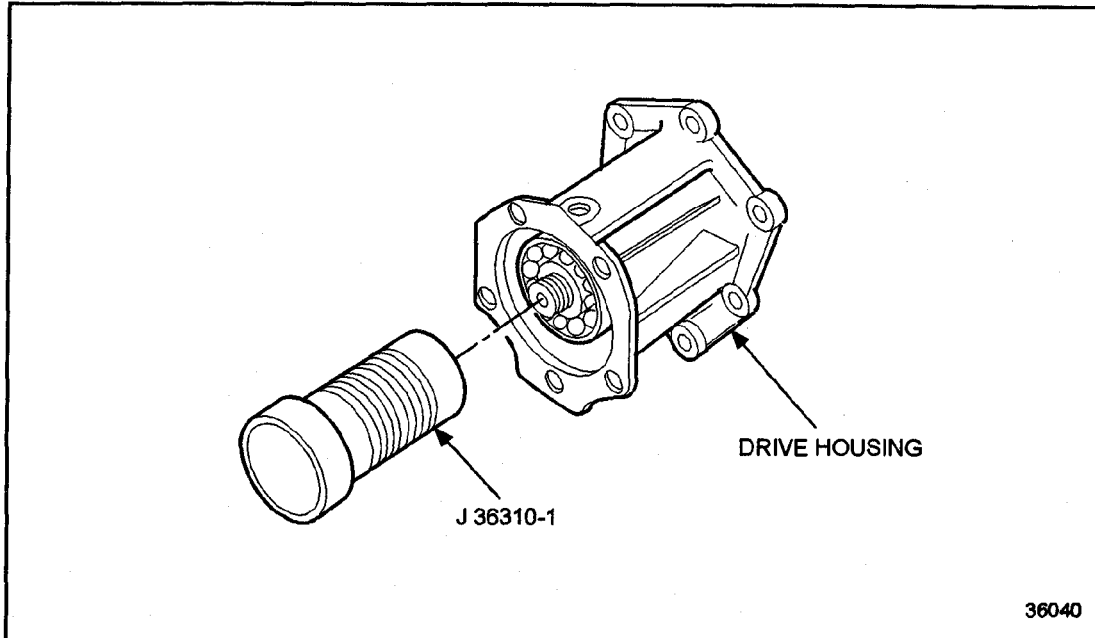

Figure 10-31 Air Compressor Drive Shaft Installation (Former Design)
12. Place the small end of the ball bearing installer, J 36310-1 part of J 36310-A, against the ball bearing inner race. Press the ball bearing and housing down onto the drive shaft until the ball bearing inner race is firmly seated against the shoulder of the drive shaft. See Figure 10-31.